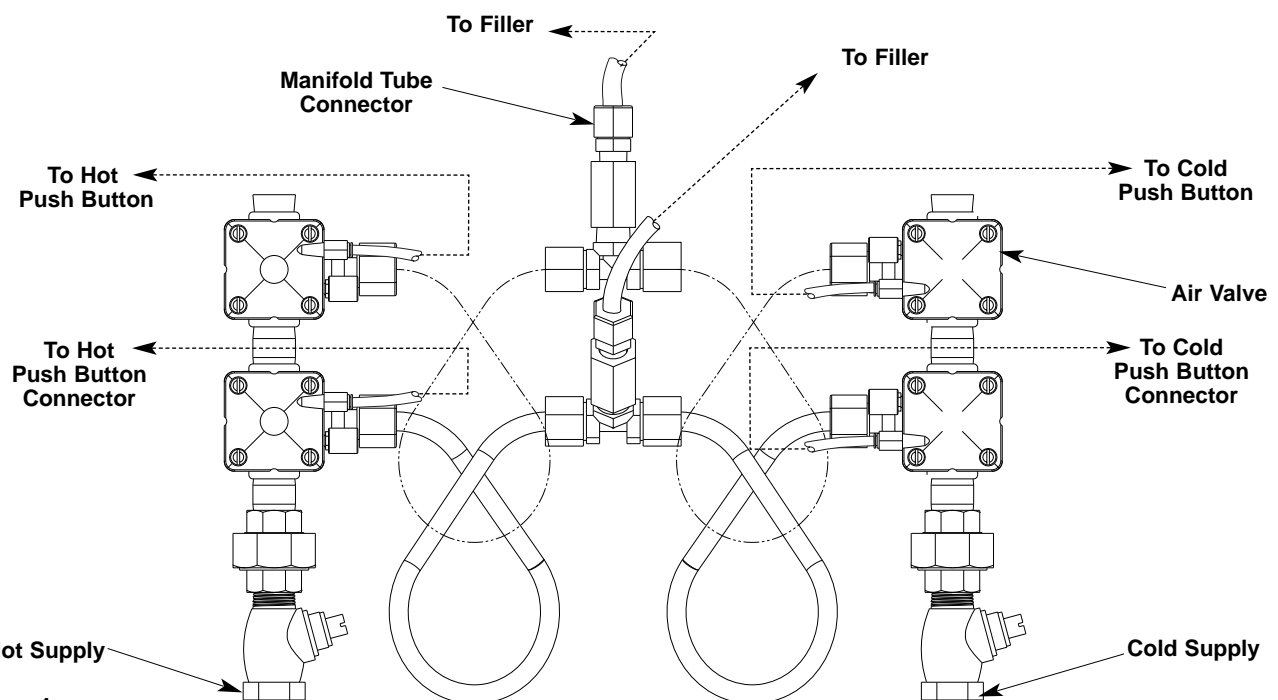

Figure 1
1. Insert one end of the red nylon tube completely into the hot water push button tube connector, and the other end into the air valve on the hot water supply side on manifold (Figure 1).